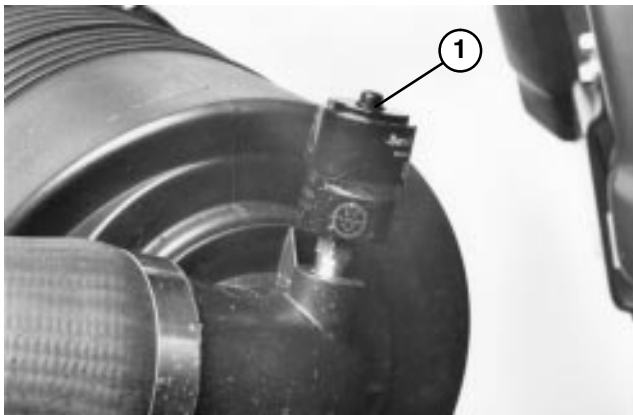

Figure 25
2. Service the air cleaner filters when ever air cleaner indicator (Fig. 25) shows red or every 400 hours (more frequently in extreme dusty or dirty conditions). Do not over service air filter.
8. Reset indicator (Fig. 25) if showing red.